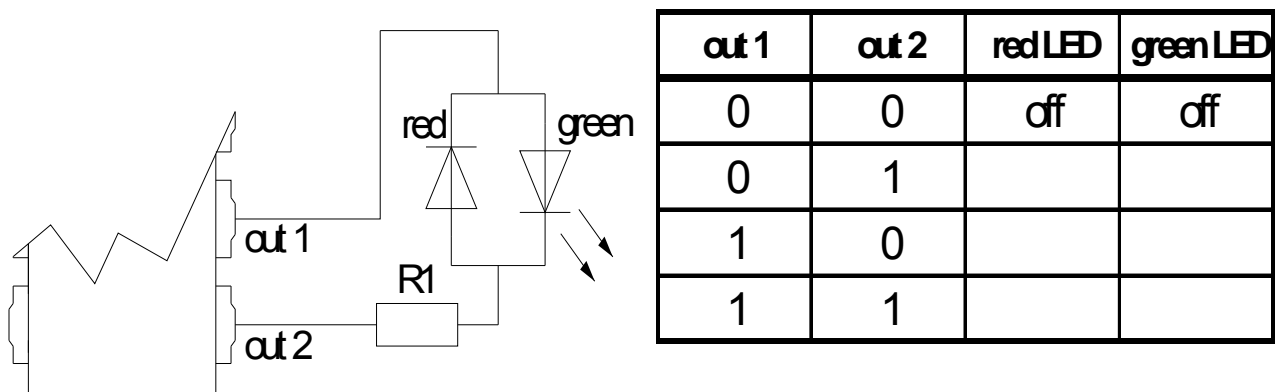

Fig. 5
- (d) (i) Fig. 5 shows the circuit arrangement for the bi-directional LED. Complete the truth table to show which LED will be switched on for all possible combinations of output 1 and output 2.